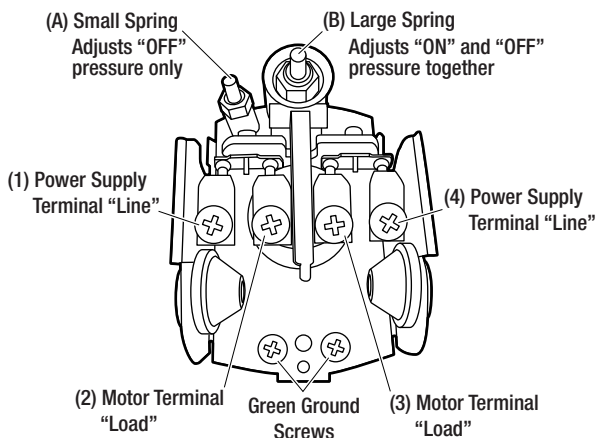

Figure 1
3. Attach motor wires to the terminals marked "LOAD" or "2 and 3" terminals. Attach the ground wire to the green ground screw. See Figures 1 and 2.
4. Attach power supply wires to the terminals marked "LINE" or "1 and 4" terminals. Attach the ground wire to the green ground screw. See Figures 1 and 2.
3. Turn the nut on the LARGE adjustment spring (B), clockwise 360° (1 full turn) for each 3 PSI you wish to increase your system's water pressure. If you would like to adjust the "Cut-Out" pressure only, you will need to adjust the nut on the SMALL spring (A) clockwise 360° (1 full turn) for each 3 PSI you wish to increase your system's "Cut-Out" water pressure. For decreasing pressure, turn the nuts counterclockwise. See Figure 1.